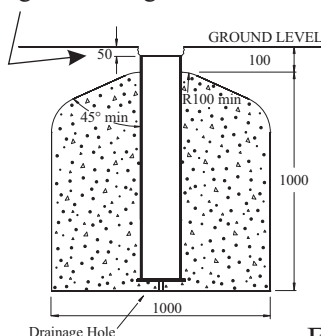
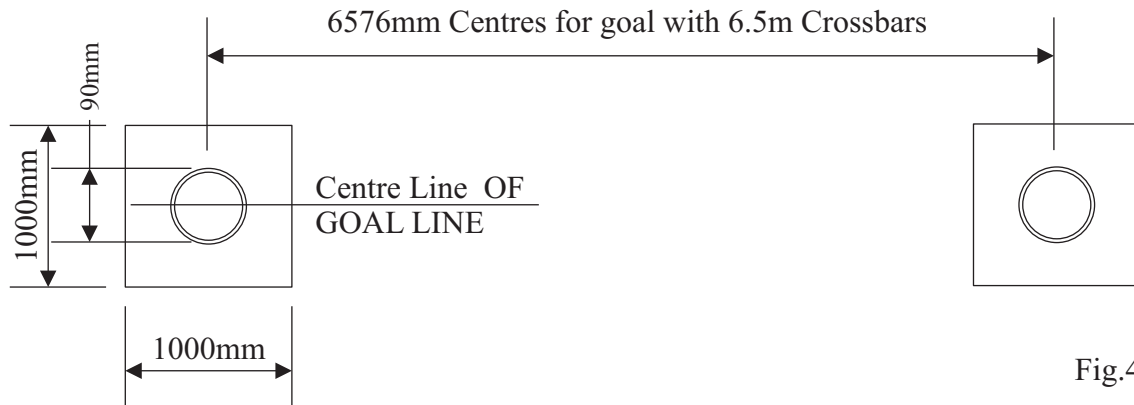

Fig.2
Fig.4
1 Concrete the sockets (6) in place at centres given in Fig 4. Place the socket top 50mm below ground level, and finish the concrete 100mm below ground level to allow for soil and turf, as shown in Fig 2. Use the diagram below for correct socket placement. Use spirit level to make sure that the sockets are truly vertical and support until set. Allow concrete to cure fully before assembling the rest of your goal.